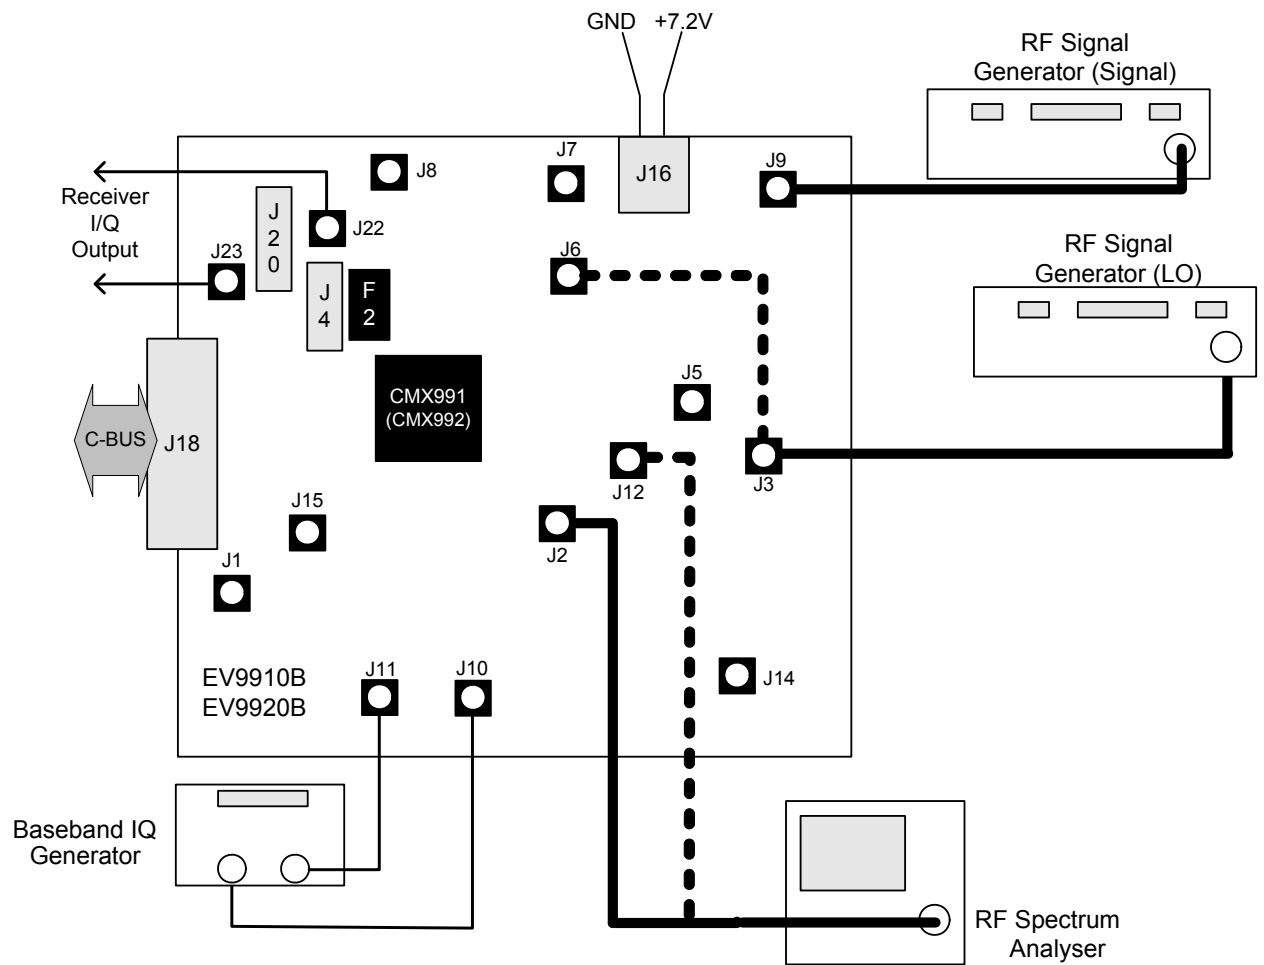

Figure 2 – Typical Evaluation Connections for EV9910B/EV9920B
1. Connect test leads as shown below in Figure 2.